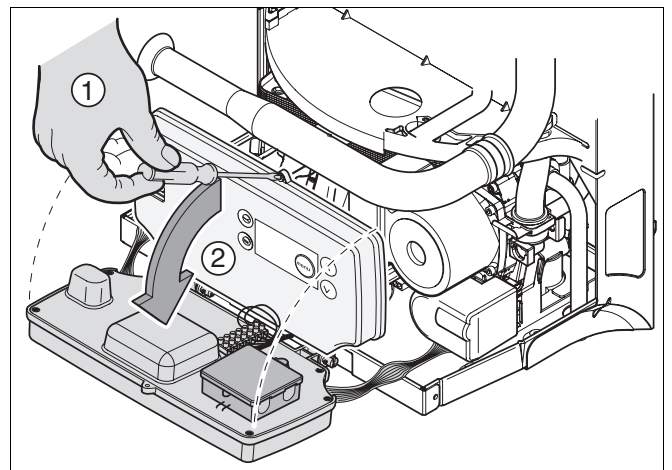

fig. 31 Lower the DBA
- Remove the securing screw of the DBA and lower the DBA (see fig. 31).